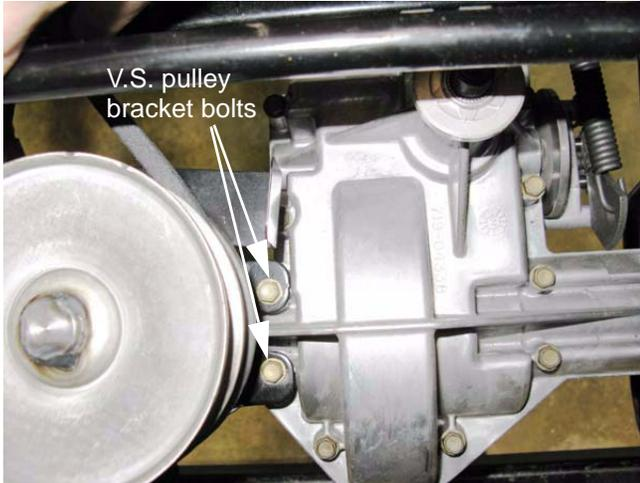

Figure 6.76
4. Unbolt the variable speed pulley bracket from the transaxle using a 3/8" wrench. See Figure 6.76.